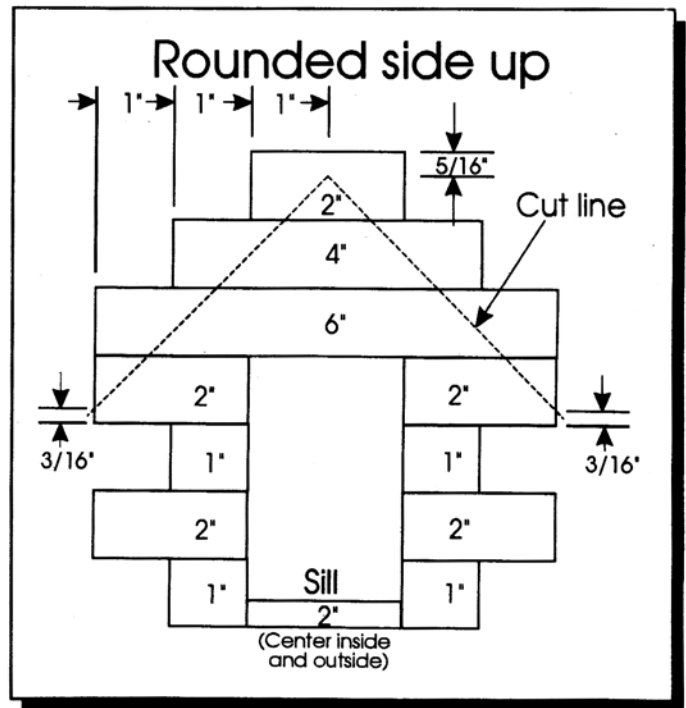

Figure 11- Dormer Front Walls
b. Glue two such assemblies together and cut as shown in Figure 11.